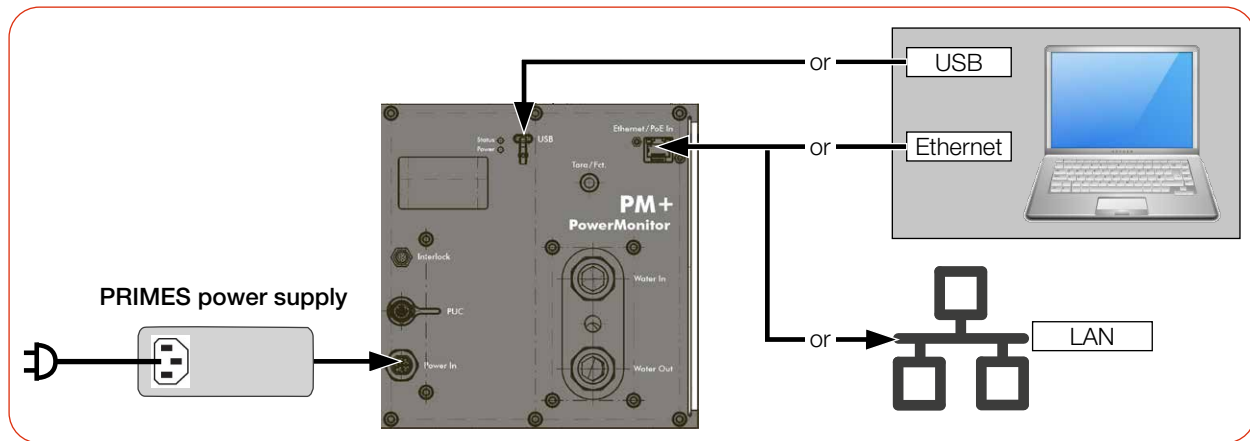

Fig. 8.4: Power supply via PRIMES power supply, data transfer via USB or Ethernet
- Power is supplied via the PRIMES power supply with 24 V ± 5 % (DC).
► Connect the PRIMES power supply and the cable according to Fig. 8.4 on page 28 an.